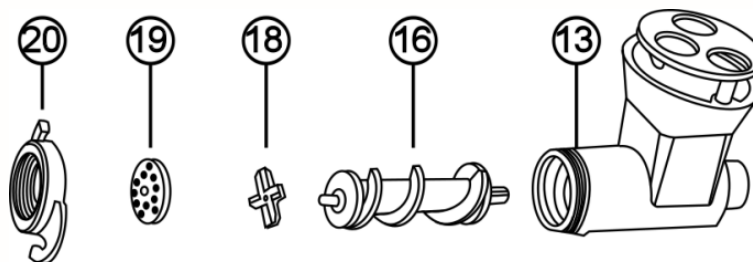

FIG.1 EXPLODED VIEW OF GRINDING UNIT
- 1.- Remove the ring (20) turning it counterclockwise and extract the plate (19), Knife (18) and worm (16) (see Fig 1).